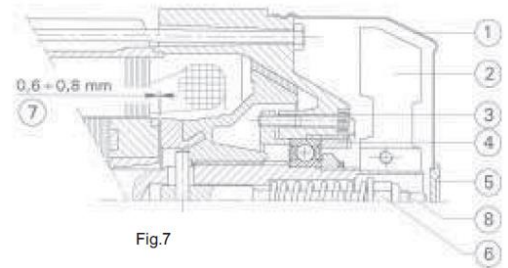

Fig.7
8.2 AJUSTAREA FRÂNEI MOTORULUI (Fig. 7)